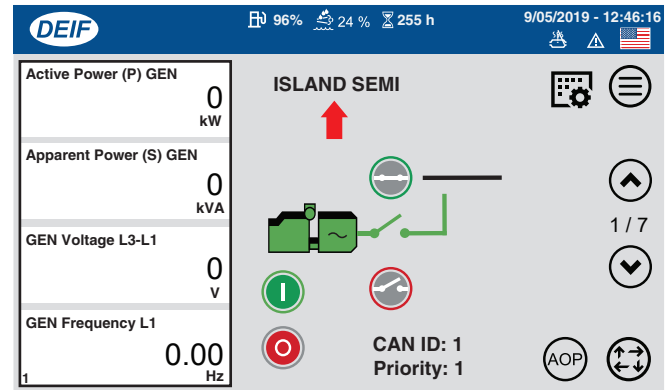

Figure 56. Status Message (ISLAND SEMI)
4. Verify that the status message **ISLAND SEMI** is shown on the touch display (Figure 56).